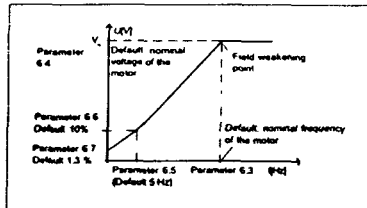

Figure 2.4-2 Programmable V/Hz curve
**2** Programmable V/Hz curve can be used if the standard settings do not satisfy the needs of the application. See figure 2.4.2.